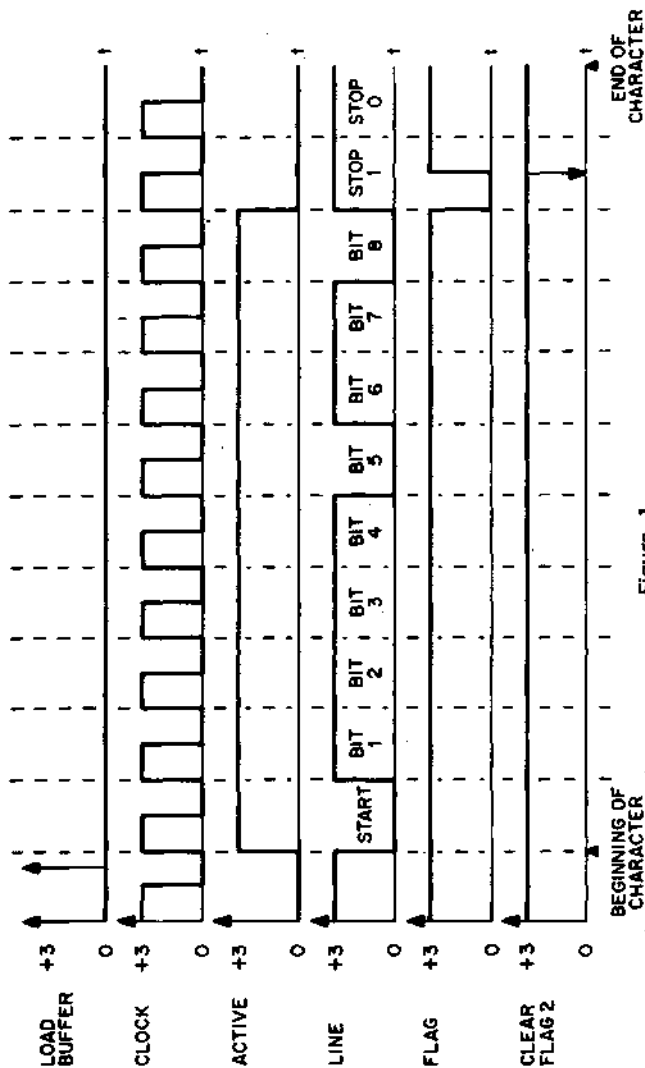

Figure 1.
The M706 Teletype Receiver is a serial-to-parallel teletype code converter self contained on a double height module. This module includes all of the serial-to-parallel conversion, buffering, gating, and timing (excluding only an external clock necessary to transfer information in an asynchronous manner between a serial data line or teletype device and a parallel binary device). Either a 5-bit serial character consisting of 7.0, 7.5, or 8.0 units or an 8-bit serial character of 10.0, 10.5, or 11.0 units can be assembled into parallel form by the M706 through the use of different pin connections on the module. When conversion is complete, the start and stop bits accompanying the serial character are removed. The serial character is expected to be received with the start bit first, followed by bits 1 through 8 in that order, and completed by the stop bits. Coincident with reception of the center of bit eight, the Flag output goes low indicating that a new character is ready for transmission into the parallel device. The parallel data is available at the Bit 1 through Bit 8 outputs until the beginning of the start bit of a new serial character as received on the serial input. See the timing diagram of Figure 1 for additional information.
**Read Buffer:** A high level or positive pulse at this input while the code select inputs are all high will transfer the state of the shift register to outputs Bit 1 through Bit 8. Final parallel character data can be read by this input as soon as the Flag output goes to ground. Output data will be available a maximum of 100 nsec after the rising edge of this input. See the timing diagram of Figure 1 for additional information.
The M707 Teletype Transmitter is a parallel-to-serial teletype code converter self contained on a double height module. This module includes all of the parallel-to-serial conversion, buffering, gating, and timing (excluding only an external clock) necessary to transfer information in an asynchronous manner between a parallel binary device and a serial data line or teletype device. Either a 5-bit or an 8-bit parallel character can be assembled into a 7.0, 7.5, or 8.0 unit serial character or a 10.0, 10.5, or 11.0 unit serial character by the M707 through the use of different pin connections on the module. When conversion is complete, the necessary start bit and selected stop bits (1.0, 1.5, or 2.0 units) have been added to the original parallel character and transmitted over the serial line. The serial character is transmitted with the start bit first, followed by bits 1 through 8 in that order, and completed by the stop bits. Coincident with the stop bit being put on the serial line, the Flag output goes low indicating that the previous character has been transmitted and a new parallel character can be loaded into the M707. Transmission of this new character will not occur until the stop bits from the previous character are completed. See the timing diagram of Figure 1 for additional information.